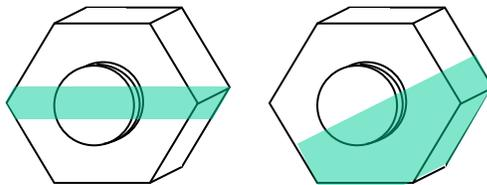

Figure 7. Slippage paint indication.
- Ensure that the fastener has not slipped by inspecting the paint indication, see Figure 7. If slippage is indicated, refurbish as necessary or dispose of item.
3. Repaint the fastener slip indicator when necessary. Paint as shown in Figure 7.
5. Link retaining fastener: Threaded link retaining fasteners that use a bolt and self-locking nut may be retightened in accordance with the Table 3: Link Fastener Torque Values. Paint fasteners as shown in Figure 7. Other fastener systems shall be sent to the manufacturer to be repair.